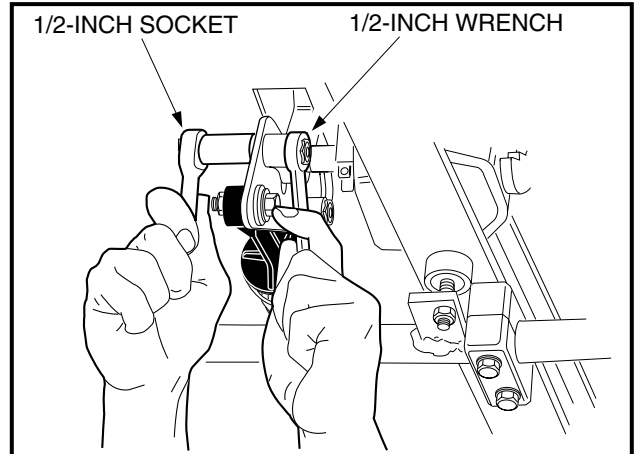
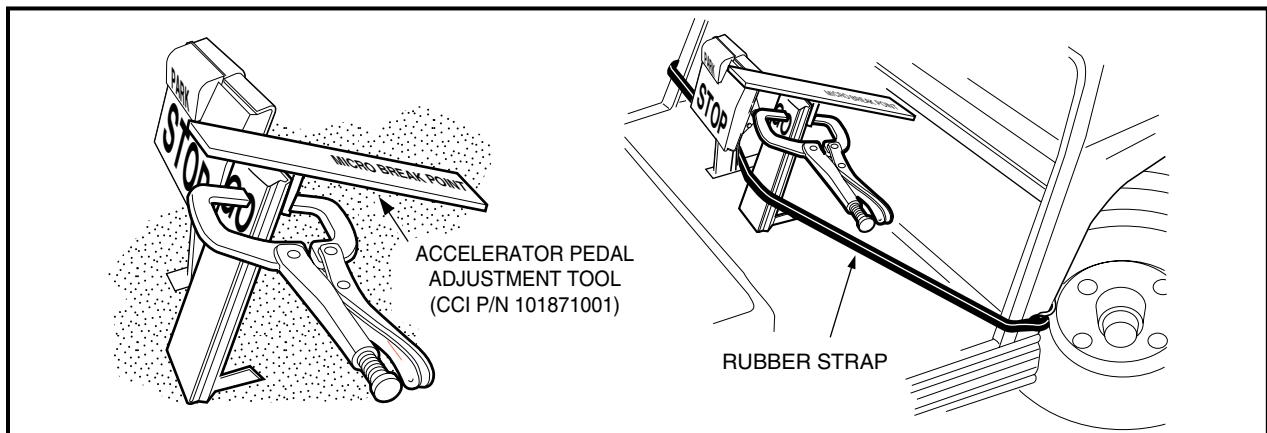

Figure 5-18 Accelerator Pedal Height Adjustment
Figure 5-19 Accelerator Pedal Height Adjustment
- 4.1. Loosen the nut and bolt (**Figure 5-18, Page 5-19**) securing the accelerator pedal to the pivot plate. Clamp the accelerator pedal adjustment tool (CCI P/N 101871001) to the accelerator pedal, with the end marked *accelerator pedal height* closest to the floorboard. Depress the accelerator pedal until the end of the tool rests against the floorboard; pedal height should be 5-5/8 inches (14.3 cm). Use a rubber strap to hold pedal in position against the floorboard and then tighten nut to 26 ft-lb (35.3 N·m) (**Figure 5-19, Page 5-19**).